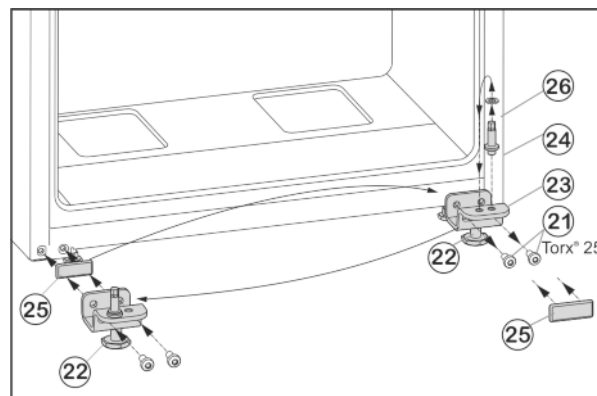

Fig. 9
- Unscrew fastening screws Fig. 9 (21).
- Remove the lower bearing block Fig. 9 (23), complete with bearing bolt Fig. 9 (24), washer Fig. 9 (26) and adjustable foot Fig. 9 (22).
- Unscrew the bearing bolt Fig. 9 (24), complete with washer Fig. 9 (26), re-locate it into the mounting hole on the opposite side of the bearing block and tighten again.
- Carefully remove the cover plate Fig. 9 (25) and re-locate it to the other side.
- Screw on the lower bearing block Fig. 9 (23), complete with bearing bolt Fig. 9 (24), washer Fig. 9 (26) and adjustable foot Fig. 9 (22) to the new hinge side, with the help of a cordless screwdriver if necessary, and **tighten (with 4 Nm)** once again.
- ▶ Lower the door from above onto the bearing bolt *Fig. 9 (24)*.
- ▶ Unscrew the adjustable foot *Fig. 9 (22)* on the lower bearing block *Fig. 9 (23)* until it touches the floor.